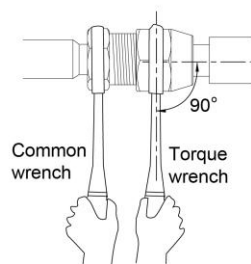

Fig. 16
(3) Use torque wrench to twist on the flared nut tightly until the wrench gives out a click sound. (Hold the handle of wrench and make it at right angle to the pipe. as in Fig.16)
(4) Use sponge to wrap the un-insulated connection pipe and joint. Then tie the sponge tightly with plastic tape.
(5) Connection pipe should be supported by a bearer rather than the unit.
(6) The bending angle of piping should not be too small; otherwise the piping might have cracks. Please use a pipe bender to bend the pipe.
(7) When connecting IDU with connection pipe, do not pull the big and small joints of IDU with force in case the capillary tube or other tubes have cracks and cause leakage.